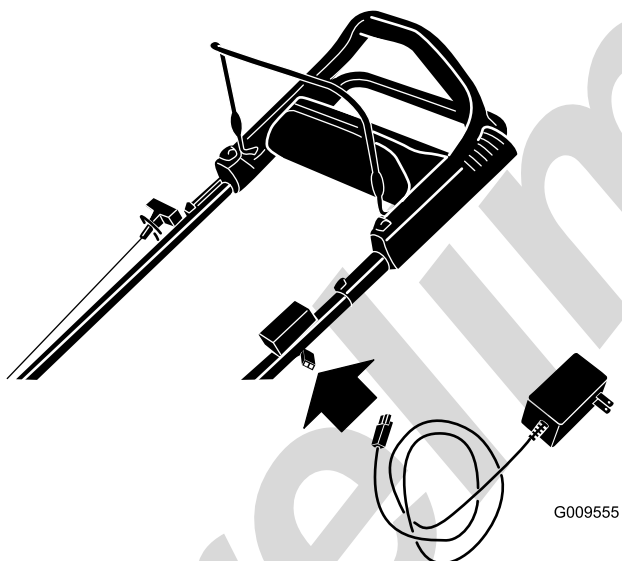

Figure 23
1. Connect the charger to the wire harness located below the ignition key (Figure 23).